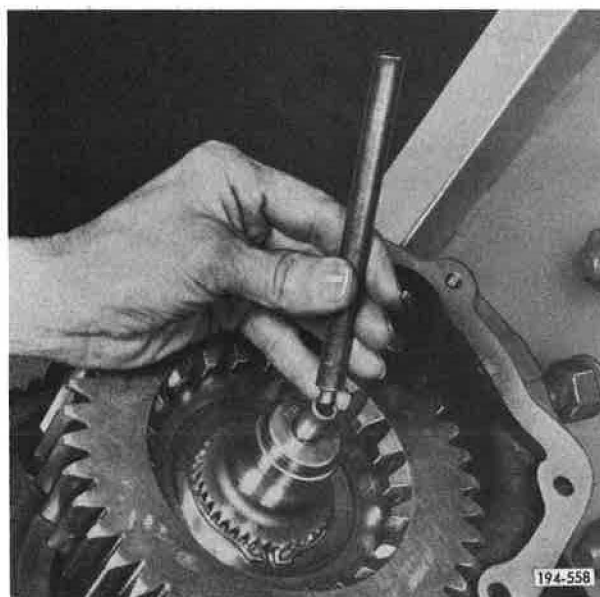

Figure 5-525. Installing Oil Tube
29. If front mainshaft rear oil tube was removed previously, install it now using a suitable driver. See Figure 5-525.